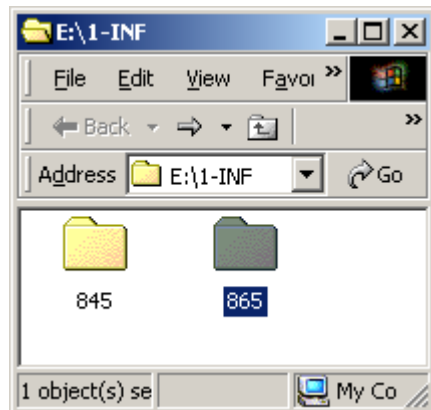

Figure 7-3: Chipset Folder
Step 7: A new window opens (**Figure 7-3**).
Step 8: Select **865** from the list in **Figure 7-3**.